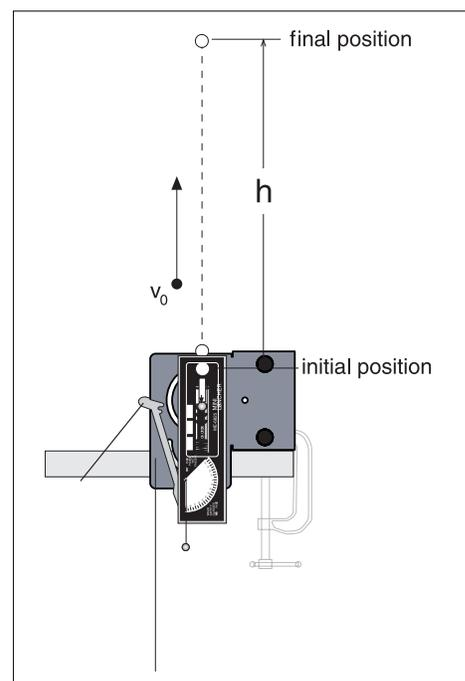

Figure 5.1: Conservation of Energy
The total mechanical energy of a ball is the sum of its potential energy (PE) and its kinetic energy (KE). In the absence of friction, total energy is conserved. When a ball is shot straight up, the initial PE is defined to be zero and the  $KE = (1/2)mv_0^2$ , where  $m$  is the mass of the ball and  $v_0$  is the muzzle speed of the ball. See Figure 5.1. When the ball reaches its maximum height,  $h$ , the final KE is zero and the  $PE = mgh$ , where  $g$  is the acceleration due to gravity. Conservation of energy gives that the initial KE is equal to the final PE.
- ① Clamp the Mini Launcher near one end of a sturdy table with the Launcher aimed away from the table. See Figure 5.1.
- ② Point the Launcher straight up and fire a test shot on long range. Make sure the ball does not hit the ceiling. If it does, use the medium range throughout this experiment or put the Launcher closer to the floor.
- ③ Adjust the angle of the Mini Launcher to zero degrees so the ball will be launched horizontally.